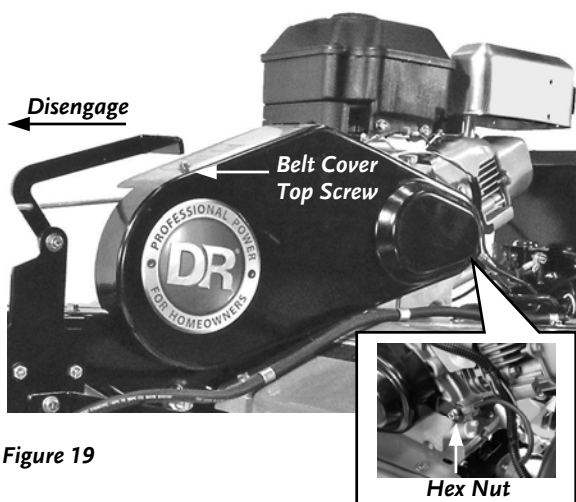

Figure 19
1. Remove the Screw from the top of the Belt Guard (Figure 19).
2. Remove the Hex Nut from the rear of the Belt Guard using a 7/16" Socket and remove the Belt Guard (Figure 19).
3. Disengage the Tine Clutch Lever (Figure 19) and remove the worn Belt.